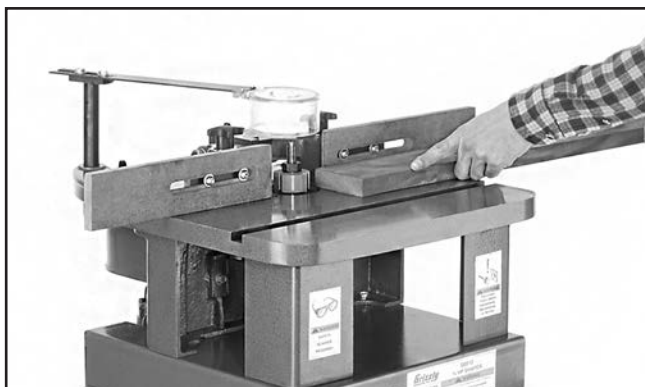

Figure 27. Feeding scrap piece into shaper to test setup.
7. To test setup, run scrap piece of stock through shaper using your left hand to support workpiece against fence and your right hand to feed, as shown in **Figure 27**. Switch hands for clockwise rotation.